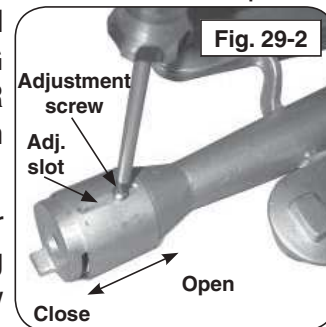

Fig. 29-2
2. Adjust the air shutter opening by loosening the adjustment screw with a screwdriver, then sliding the air shutter backward or forward to open or close the air shutter opening (see Fig. 29-2).